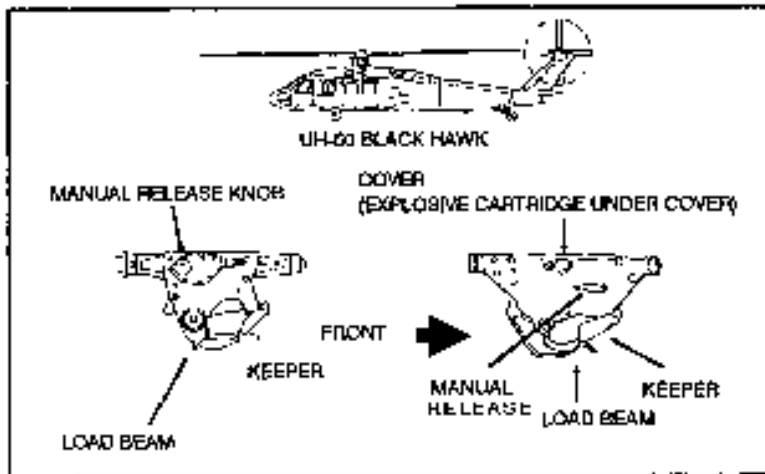

Figure 5-8. UH-60 Black Hawk and its cargo hooks.
a. Cargo hook tensile strengths for US Army aircraft (Figures 5-8 through 5-11) are: